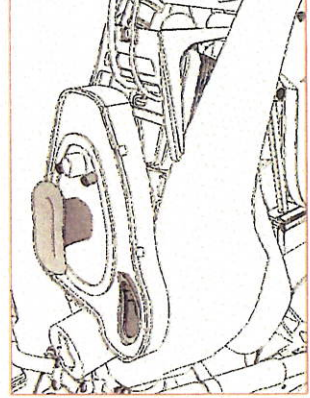

Figure 8
6. Beginning at the intake snorkel, work the snorkel flange through the airbox floor, slowly lifting the airbox floor as you go. (Figure 8)